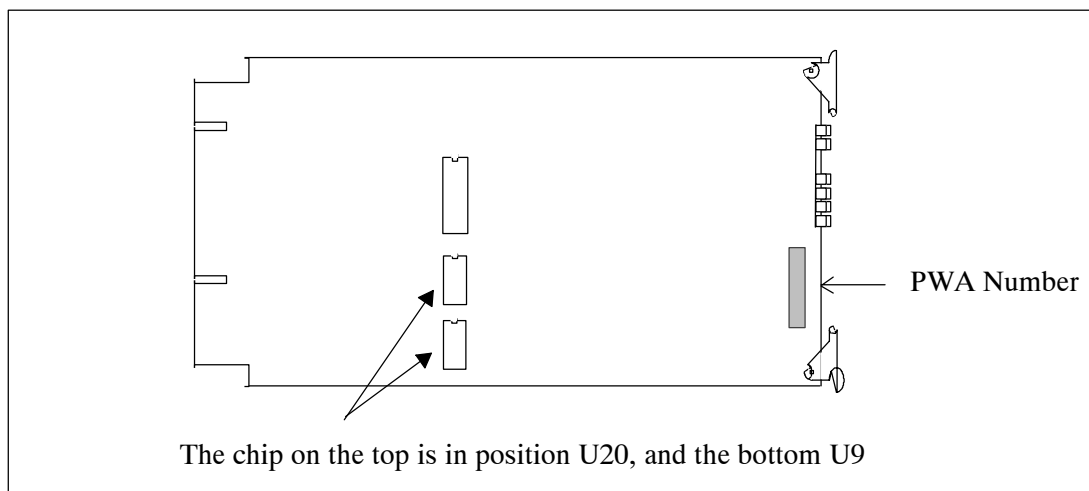

Figure 4.3. 68040 IO Processor Board
2. Verify that the board is PWA 1984-3202-0010 or 10P55270010. (See Figure 4.3)
5. Prepare the new components for installation. One of the EPROM chips is labeled with a "1" and the other with a "0". The chip labeled with the "1" will go into location U9, and the chip labeled "0" will go into location U20. (See Figure 4.3)